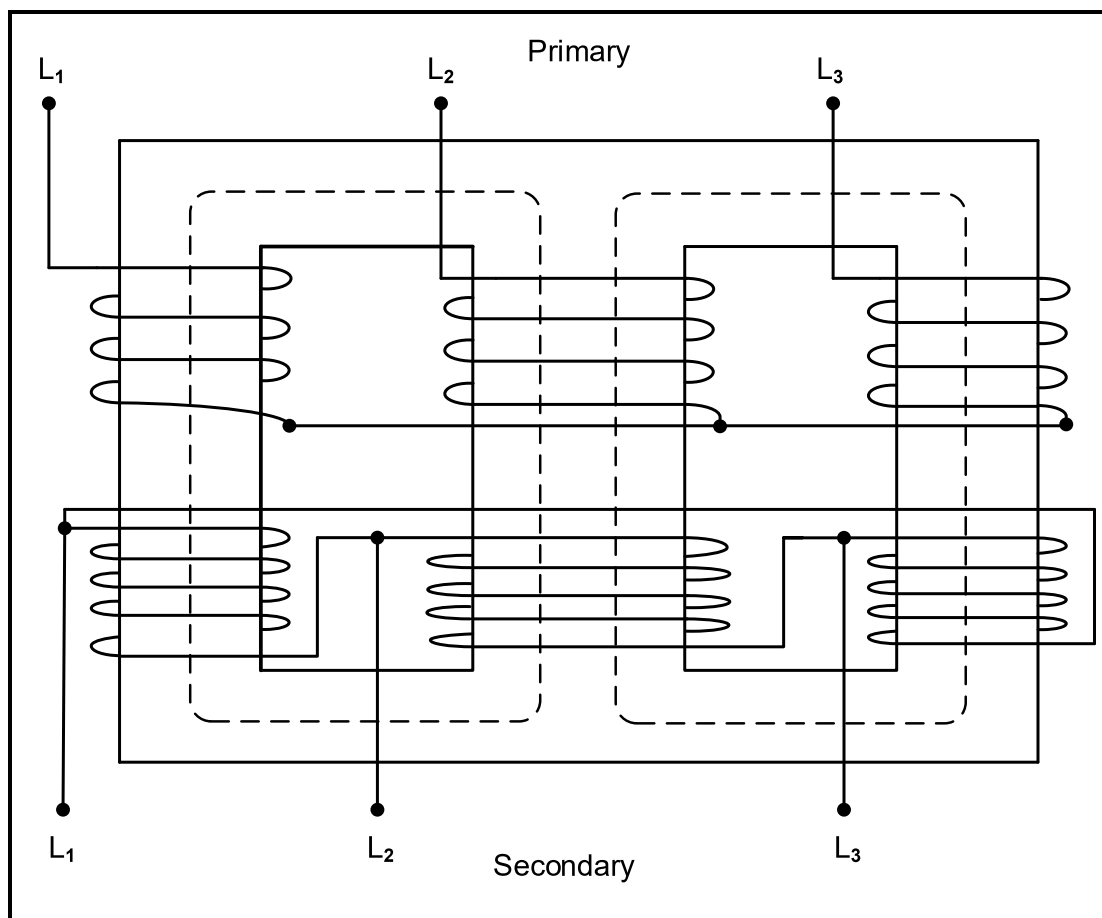

FIGURE 5.1: THREE-PHASE TRANSFORMER
5.1 Refer to FIGURE 5.1 below and answer the questions that follow.
- 5.1.3 State the configuration of the primary and secondary windings in FIGURE 5.1 above. (2)
- 5.1.4 Briefly describe the principle of operation of the three-phase transformer in FIGURE 5.1 above. (4)